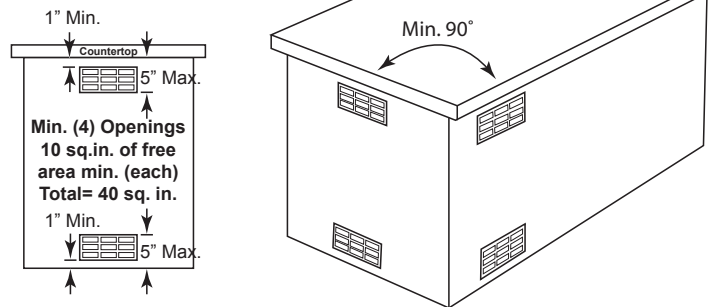

Figure 9
- Two openings should be in the side walls of the enclosure, at the top and spaced a minimum of 90° from each other. The openings should begin 1" or less below the countertop edge and end no more than 5" below the countertop edge. See Figure 9.
The clearance between the openings and any items outside of the enclosure is a minimum of 6". The clearance between the openings and any items within the enclosure is a minimum of 2". This provides free flowing air inside and outside the enclosure to keep the island cool during operation of the power burner. See Figure 9.